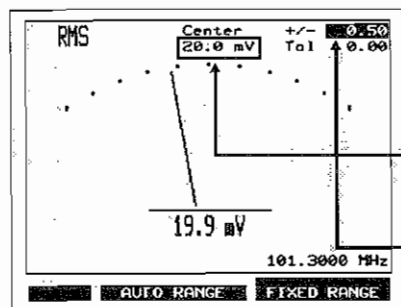

Fig. 2.19: The contents of the two marked entry fields decide what measurement range is valid in **FIXED RANGE** mode.
- 1) Locate field 1 with the cursor keys (Fig. 2.19) and enter a value that is to produce pointer deflection to center scale. In certain conditions (eg RF power measurement with units watt) the required dimension can be set with **UNIT/SELECT** (W, mW, μ W, nW) before confirming the entry. Whether or not **UNIT/SELECT** offers this function will depend on the called instrument and the unit of measurement and is best found out by trying the key.
Example: Adjustment with RMS meter to set point = $1\text{ V} \pm 0.1\text{ V}$ (Fig. 2.20). This produces for field 1 (as in Fig. 2.19) an entry of 1 V and for field 2 an entry of 0.5 for example (indication of measured values that deviate from the set point by up to $\pm 500\text{ mV}$). The entry in the τ_{01} field must be 0.1 (width of tolerance zone $\pm 0.1\text{ V}$).